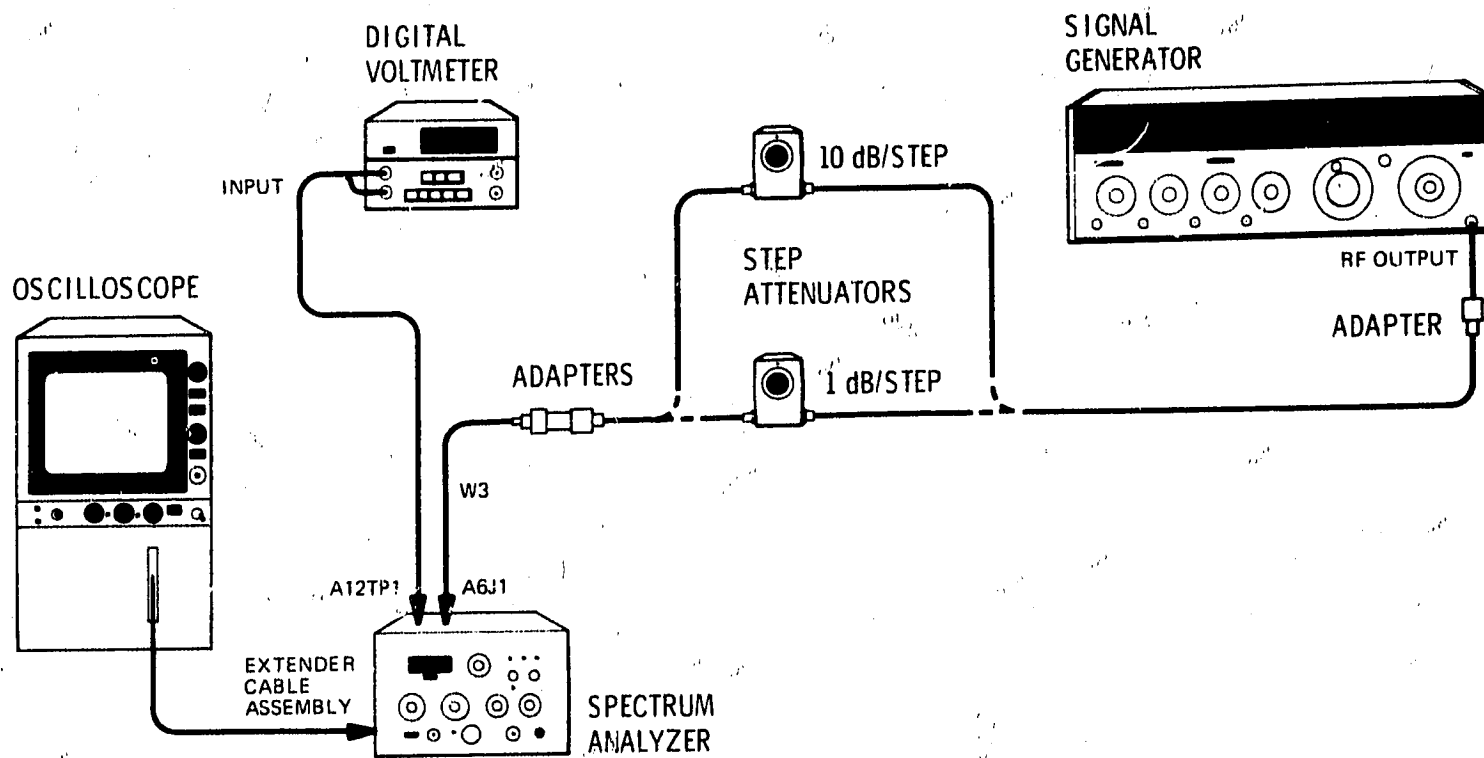

Figure 5-8. Step Amplifier Gain Adjustment Test Setup
2. Connect equipment as shown in Figure 5-8. Connect signal generator tuned to 21.4 MHz with approximately -25 dBm output to one side of a 1 dB/step attenuator. Connect attenuator output to A6J1 through adapters and W3. Tune signal generator frequency for peak amplitude on display.